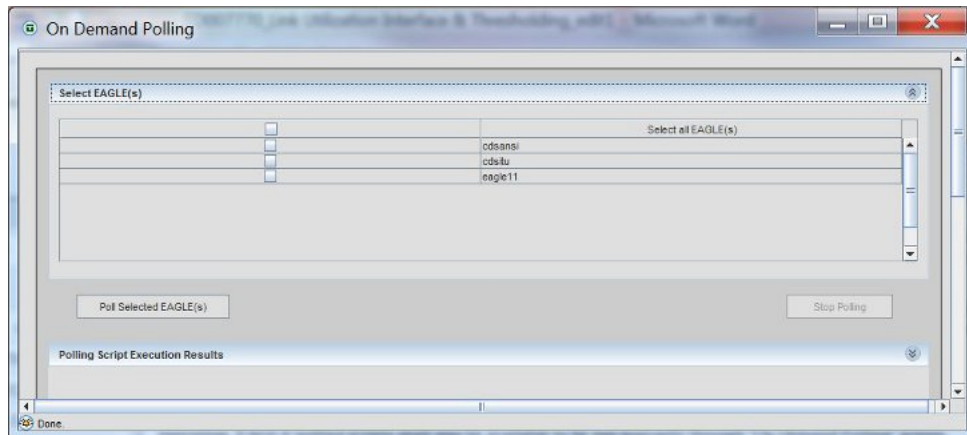

Figure 78: On Demand Polling
1. Select **On Demand Polling** under the **Link Utilization** tree node in the main menu on the left side of the E5-MS GUI page link as shown in Figure 78: On Demand Polling